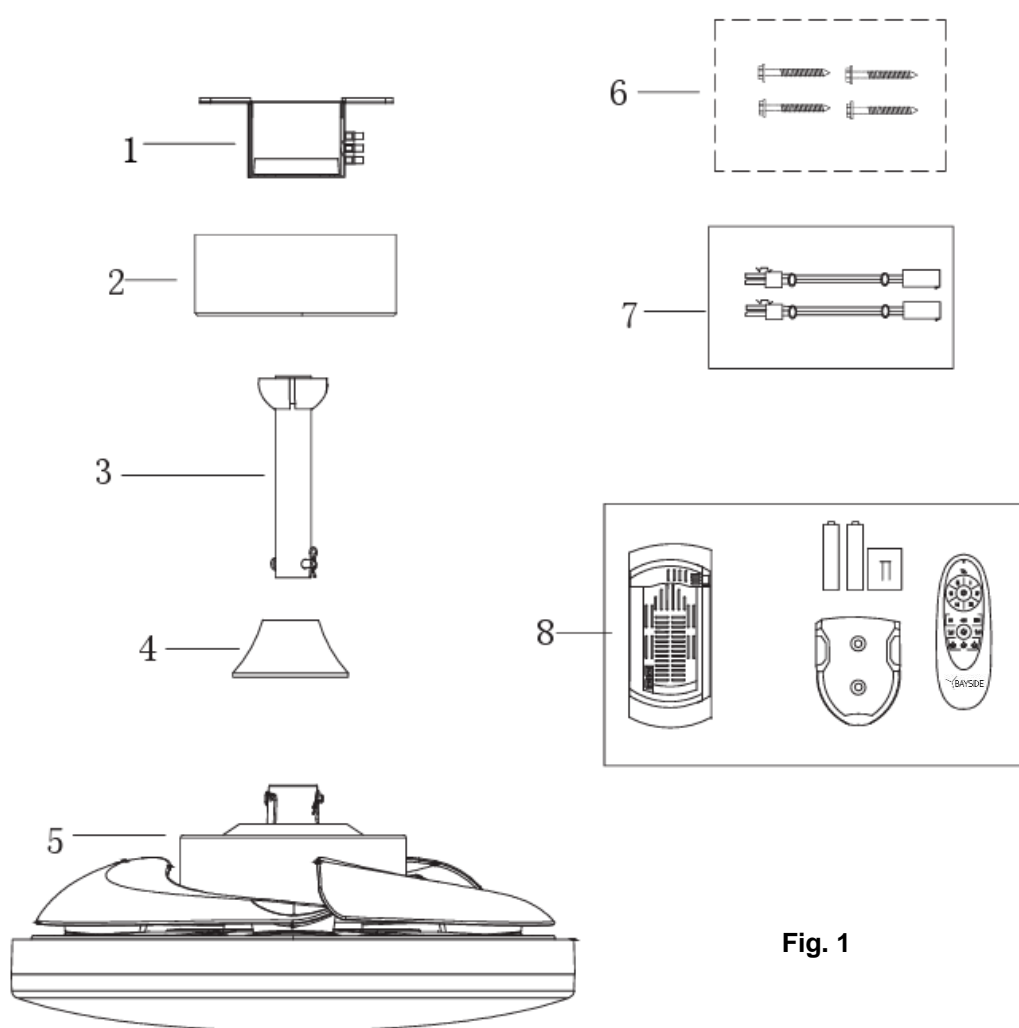

Fig. 1
- Examine all parts, you should have the following list and Fig.1 :